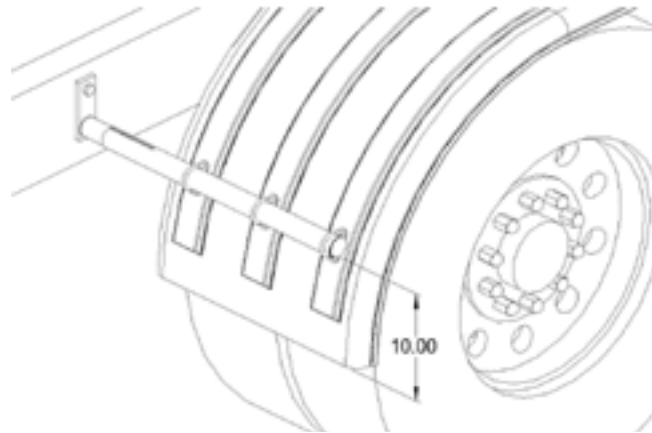

Figure 6
- C. Make sure the brackets are within 10" of the bottom of the fender to avoid wind blowing the fender back into the tire. If the front fender bracket is mounted higher than 10", run a piece of steel strapping on the inside of the fender to give it extra strength (see Figure 6 on next page).